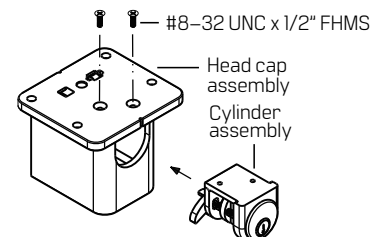

Figure 3 Installing cylinder assembly
- 1.5 With key removed, insert cylinder assembly into head cap assembly. See **Figure 3**.